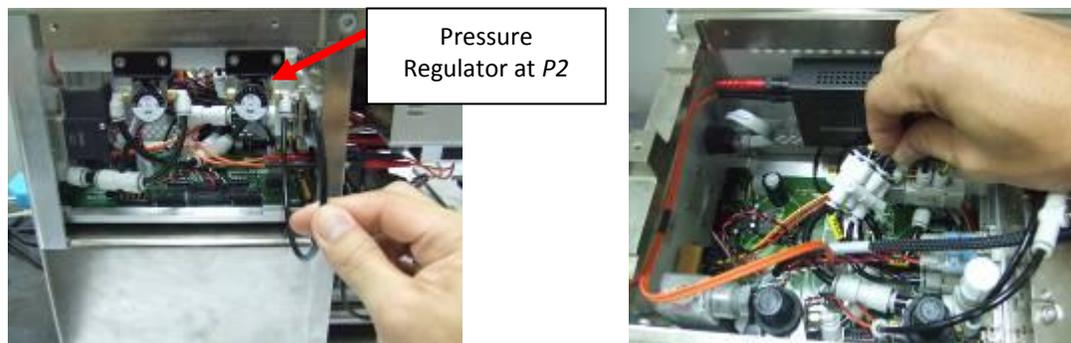

Figure 24: Identifying the M4 tubing end and make connection accordingly
21. After this, identify the M4 tubing end at the *In* port of the Pressure Regulator at P2 as shown in Figure 24. Once this is done, connect this M4 tubing end to the empty port of the Y-Joint 4 to 4 which is left over after the previous unplugging of the M4 tubing end with the label of Y4.2.C in Step 19.